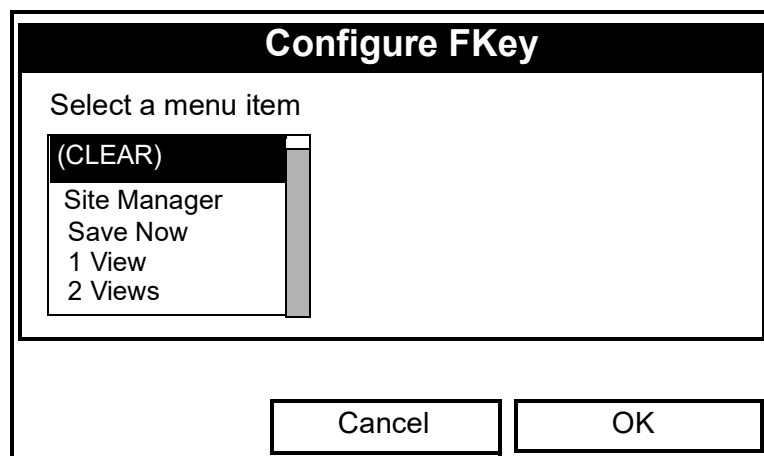

Figure 94: The Configure FKey Window
- Use the [▼] or [▲] arrow keys to move to the desired FKey (1, 2 or 3) entry on the menu. Press [ENTER]. The Configure FKey window opens, as shown in Figure 94.